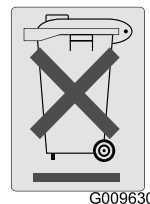

Figure 8
**Important: PREVENT ENVIRONMENTAL DAMAGE:** The battery and charger have a separate collection mark (Figure 8). This indicates that for disposal of the battery and battery charger they must be taken to an authorised disposal site. They must not be disposed of with general waste.